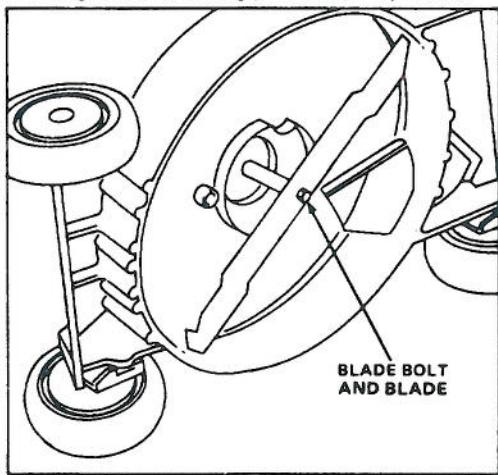

Figure 19
3. Tip mower on its right side (Fig. 19). Avoid rotating blade. Starting problems may result.
5. REMOVING BLADE — Grasp end of blade using a rag or thickly padded glove. Remove blade bolt and blade (Fig. 19).